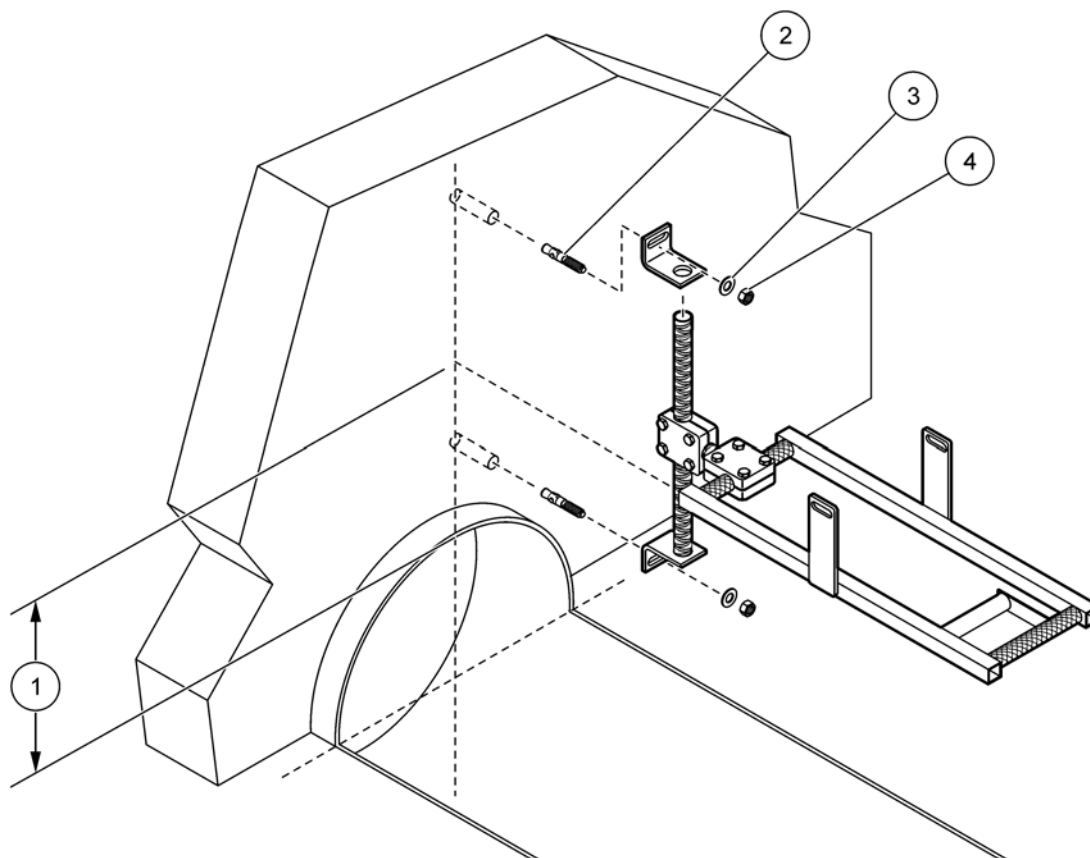

Figure 9 Wall installation
1. Make a mark on the wall that identifies the location of the top of the sensor frame (Figure 9). The wall brackets will be installed above and below this mark.
4. Connect the frame to the wall bracket with a spacer as shown in Figure 9. The 12-inch spacer may be necessary to position the sensor farther from the wall when there is a large pipe lip.
1. Measure directly above the crown of the pipe to the top of the frame (Figure 9 on page 20).